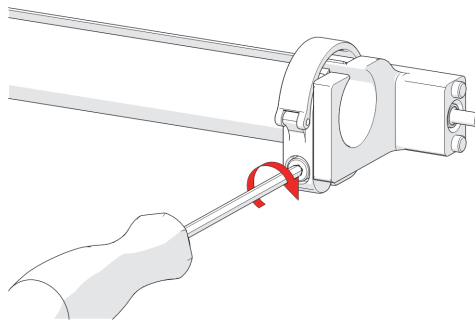

Figure 2-124 Tighten clamp screw
5. Tighten the clamp screw (see Figure 2-124 on page 125).